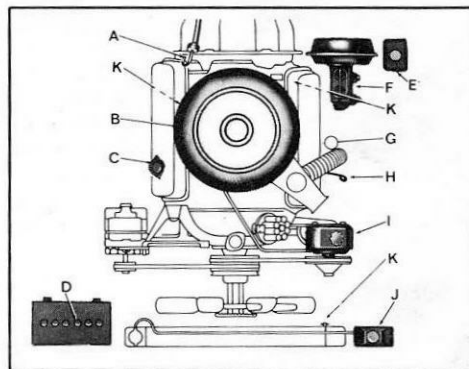

FIG. 5-1: FLUID FILLER LOCATIONS
- Remove the oil dip stick, Fig. 5-1, and wipe it clean.
Cooling System Care — Do not remove radiator cap to check coolant level, but check visually in the “see thru” coolant recovery tank, Fig. 5-1, as frequently as needed. Level should be at the “full cold” mark on the recovery tank when the system is cold, and at the “full hot” mark at normal operating temperature. Add a 50/50 mixture of high-quality ethylene glycol antifreeze and water to the recovery tank for coolant additions. If frequent additions are required, see your dealer for a cooling system check.